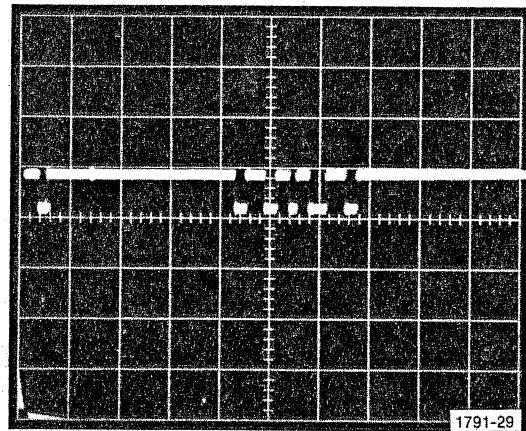

Fig. 4-11. DONE pulse waveform.
10. Place an oscilloscope probe on pin 12 of U415 on the Power Supply board. Set the oscilloscope to 5 V/Div, 5 μ s/Div, and connect again to trigger from the rising edge of the FIREX pulse. The displayed waveform should approximate that in Fig. 4-11.